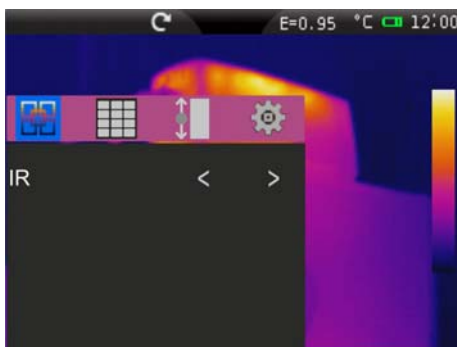

Fig. 41: Setting and displaying the IR image
- **IR** → display of IR image only (see Fig. 41)